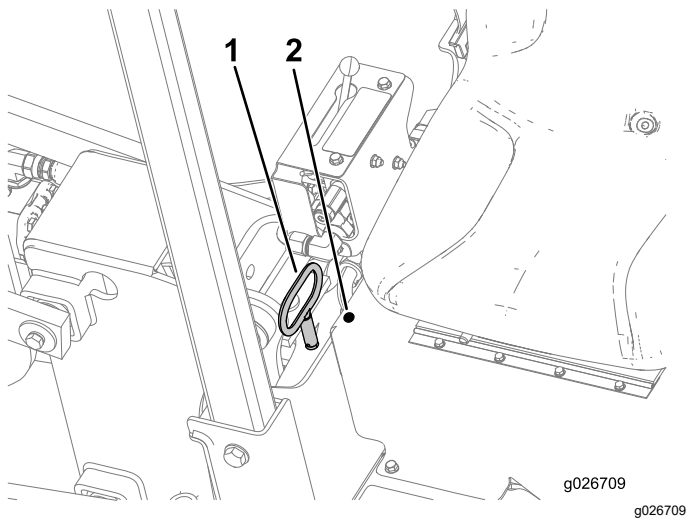

Figure 16
1. Remove the rotation pin, place it in the storage location, and start the engine (Figure 16).